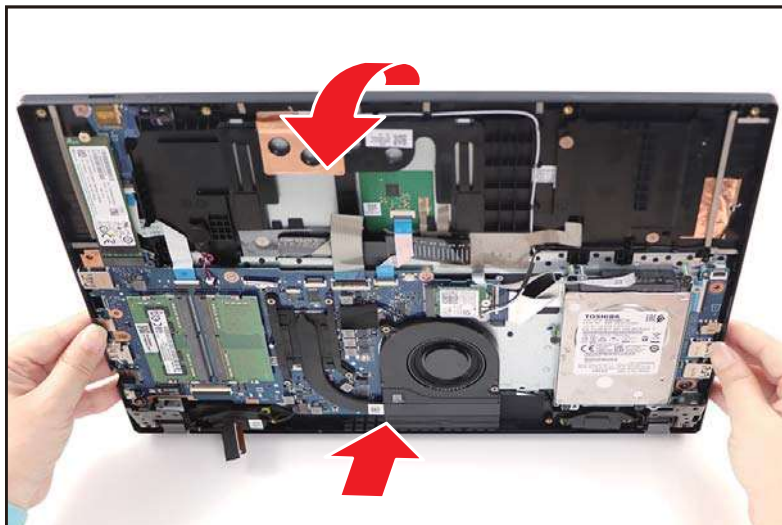

Figure 3-26. LCD Module Removal
6. Open the top assembly again, and then push it backwards to remove the top assembly away from the LCD module (Figure 3-26).